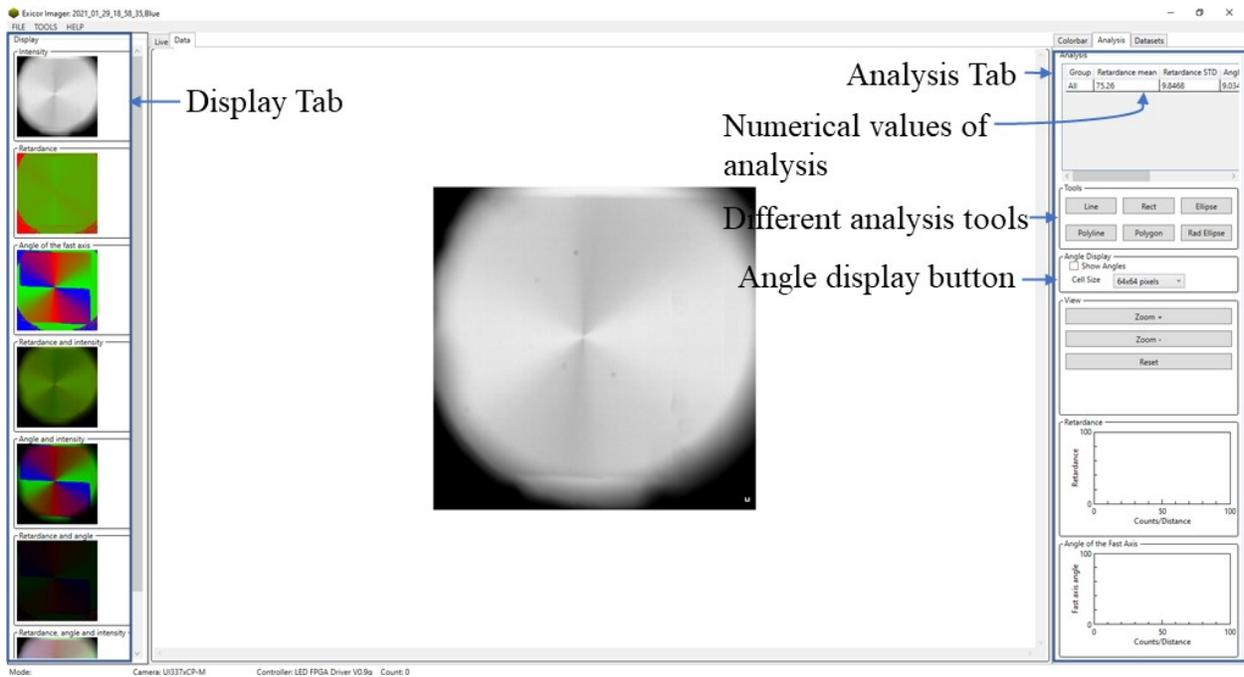
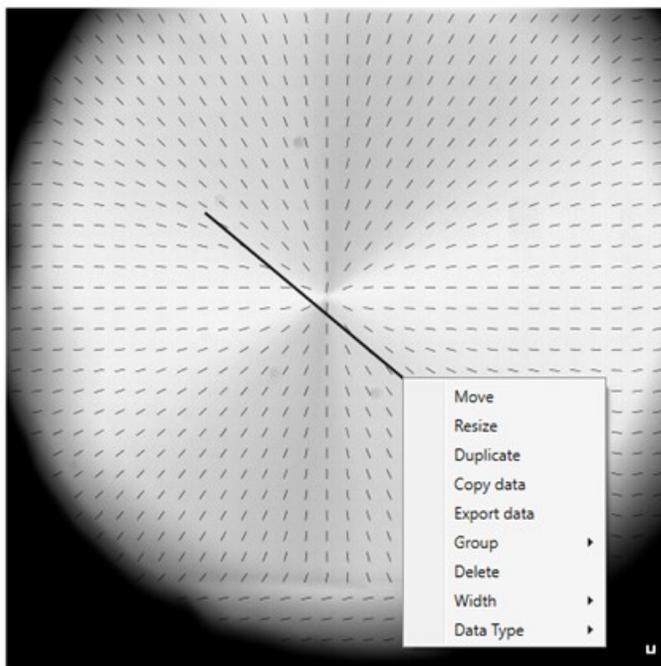

Fig. 5 Displaying results in **Data** tab
Fig. 7. Varieties of functions available for the Line analysis tool
When the scan complete, the **Live** window will switch to the **Data** tab. The **Data** tab has the results displayed as the colored images in the **Display** tab with 7 different formats: **Intensity**, **Retardance**, **Angle of the fast axis (After inserting 90 ° offset, shows slow axis)**, **Retardance and Intensity**, **Angle and Intensity**, **Retardance and Angle**, **Retardance, Angle and Intensity** and **Analysis** tab on the right as shown in Fig. 5.
7. To see the director field, go to the **Analysis** tab → mark **Show angles** inside the **Angle display** button (Shown in Fig. 5).
9. The numerical values of analysis for the current image are found in the upper part of the Analysis tab. The first row will always have the mean and standard deviation of the retardation, mean angle, and mean intensity of the entire image (as shown in Fig. 5).
10. Several shape tools for drawing out data from specific parts of the image are available in the Tools menu of the Analysis tab (as shown in Fig. 5). To access these tools, click the tool → draw this tool in the interested region of the image. The analysis of the selected region will appear as the additional rows in the upper part of the Analysis tab. A variety of functions available for each tool can be accessed by right-clicking on the shape (e.g., as shown in Fig. 7 for the Line tool).
17. Measure the exact same area of the sample with all four wavelengths (Blue, Green, Orange Red, Dark Red). For this, go back to the **Live** tab → mark the desired wavelength → press the **Auto Set Exposure** button → press **Sample** button. Then new images will be displayed as in Fig. 5 in the **Data** tab. All these datasets (including other previous datasets) will appear in the **Datasets** tab with the corresponding **recorded date, time, and wavelength**.